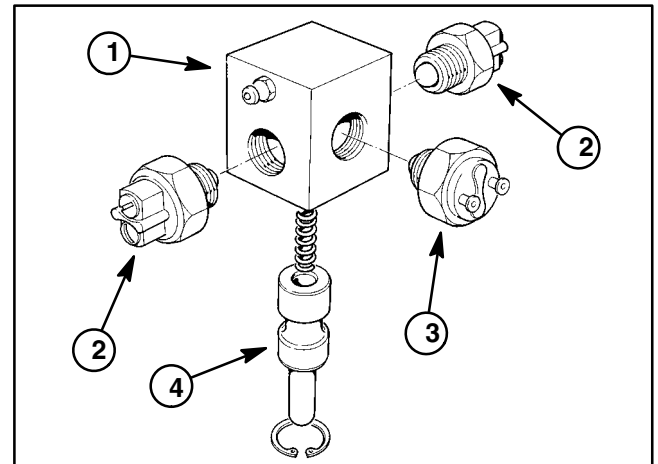

Figure 13
The coring head switch assembly monitors the position of the coring head (raised or lowered) for correct aerator operation. This switch includes two (2) normally open ball switches, one (1) normally closed ball switch, a spring loaded plunger and a housing (Fig. 13).